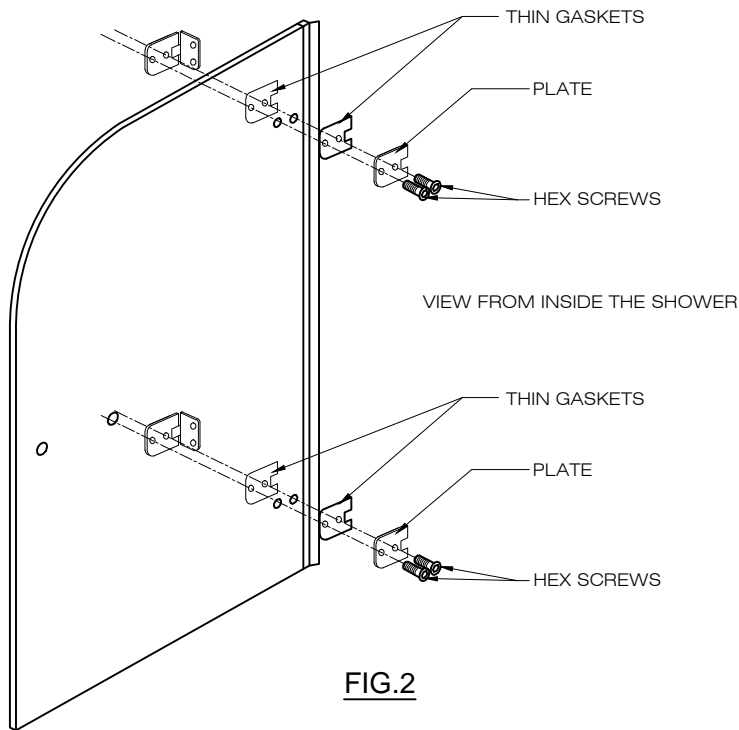

FIG.2
3. Place gaskets on each side of the door glass panel. Screw the hinges to the door glass panel with the hex key (supplied). [SEE FIG.2]